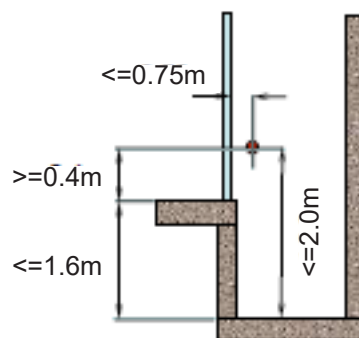

Figure 8.1: Placement of stop button if pit is $\leq 1,6m$
8.1 If the shaft pit is lower than 1.6 m (see figure 8.1 to the left below):